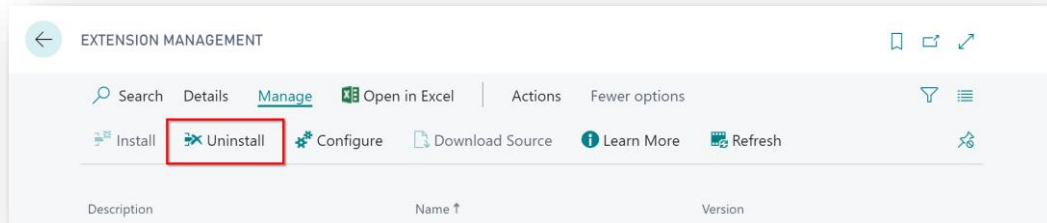

Figure 8-2
3. Select the **SD Stores Logistics** App and choose the **Uninstall** Action (*Figure 8-2*).